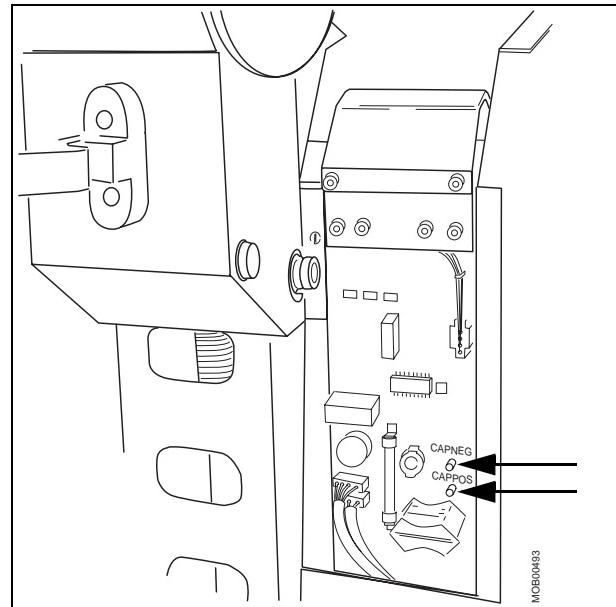

Fig. 2
- Measure the residual voltage at test points CAPPOS and CAPNEG on board D7 (refer to Fig. 2). The voltage measured must be less than 2 VDC.